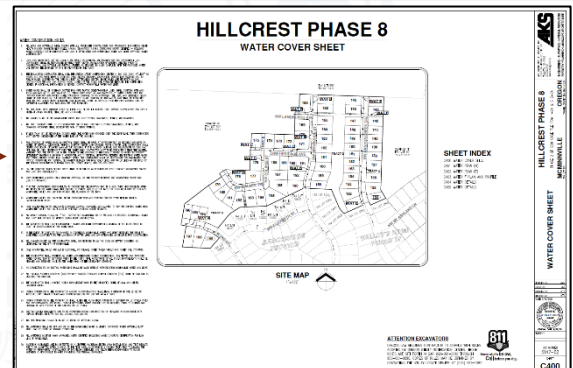

Figure 1: Water Line-Sewer Line Separation
- (9) Crossings-Sanitary sewers and water lines:
- (b) In situations involving a water line parallel to a sewer main or sewer lateral, the separation between the two shall be as indicated in Figure 1;
- (A) Wherever possible, the bottom of the water line shall be 1.5 feet or more above the top of the sewer line and one full length of the water line shall be centered at the crossing;
- (B) Where the water line crosses over the sewer line but with a clearance of less than 1.5 feet, the sewer line shall be exposed to the sewer line joints on both sides of the crossing to permit examination of the sewer pipe. If the sewer pipe is in good condition and there is no evidence of leakage from the sewer line, the 1.5-foot separation may be reduced. However, in this situation, the water supplier must center one length of the water line at the crossing and must prepare a written report of the findings and indicating the reasons for reducing the separation. If the water supplier determines that the conditions are not favorable or finds evidence of leakage from the sewer line, the sewer line shall be replaced with a full length of pipe centered at the crossing point, of PVC pressure pipe (ASTM D-2241, SDR 32.5), high-density PE pipe (Drisco pipe 1000), ductile-iron Class 50 (AWWA C-51), or other acceptable pipe; or the sewer shall be encased in a reinforced concrete jacket for a distance of 10 feet on both sides of the crossing.
- (C) Where the water line crosses under the sewer line, the water supplier shall expose the sewer line and examine it as indicated in paragraph (9)(c)(B) of this rule. If conditions are favorable and there is no evidence of leakage from the sewer line, the sewer line may be left in place, but special precautions must be taken to assure that the backfill material over the water line in the vicinity of the crossing is thoroughly tamped in order to prevent settlement which could result in the leakage of sewage. In this situation, the water supplier must center one length of the water line at the crossing and must prepare a written report recording the manner in which the sewer line was supported at the crossing and the material and methods used in backfilling and tamping to prevent settlement of the sewer. If the water supplier determines that conditions are not favorable or finds evidence of leakage from the sewer line, the provisions of paragraph (9)(c)(B) of this rule apply.